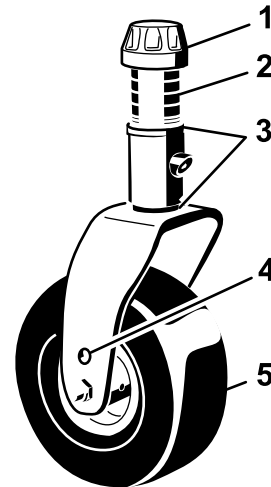
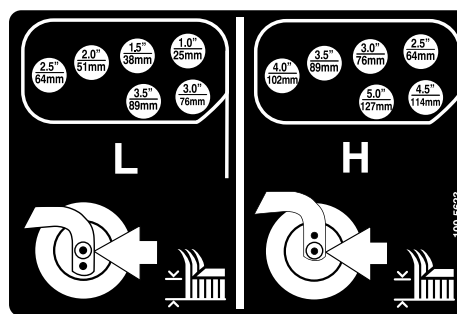
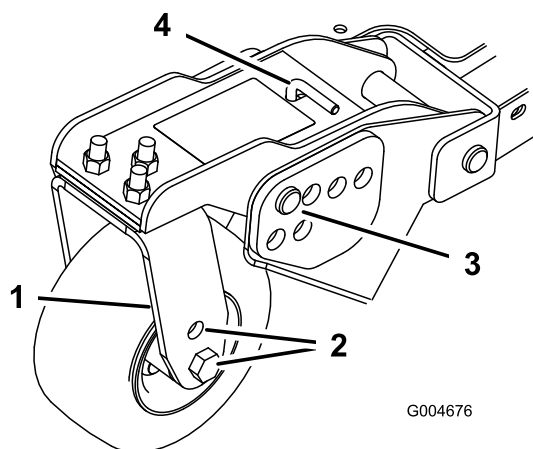

Figure 22
Figure 25
Figure 24
- Position the castor wheel axles in the same holes in all of the castor forks (Figure 22 and Figure 24). Refer to the following chart to determine the correct hole for the setting.
- Remove the tensioning cap from the spindle shaft (Figure 22) and slide the spindle out of castor arm. Put the two shims (3 mm [1/8 inch]) onto spindle shaft as they were originally installed. These shims are required to achieve a level across the entire width of the cutting units. Slide the appropriate number of 13 mm (1/2 inch) spacers onto the spindle shaft to get the desired height-of-cut; then slide the washer onto the shaft.
4. Remove the hairpin cotter and clevis pins from the castor pivot arms (Figure 24).
5. Rotate tension rod to raise or lower pivot arm until holes are aligned with selected height-of-cut bracket holes in the cutting unit frame (Figure 24 and Figure 25).